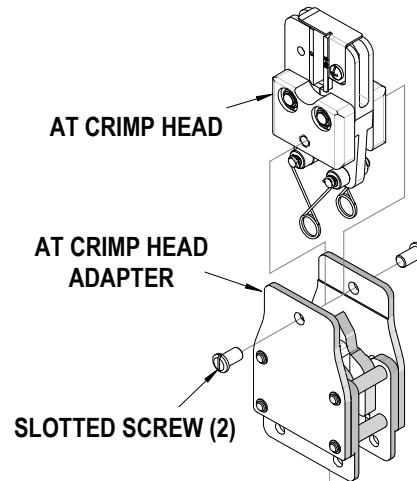

Figure 2-15
Install the AT Air Crimp Head onto the AT Power Adapter as shown in Figure 2-15.
2. Then install the crimp head onto the AT Power Adapter. This is a typical Type RHT Crimp Tooling Kit arrangement in AT Head. See Figure 2-15.